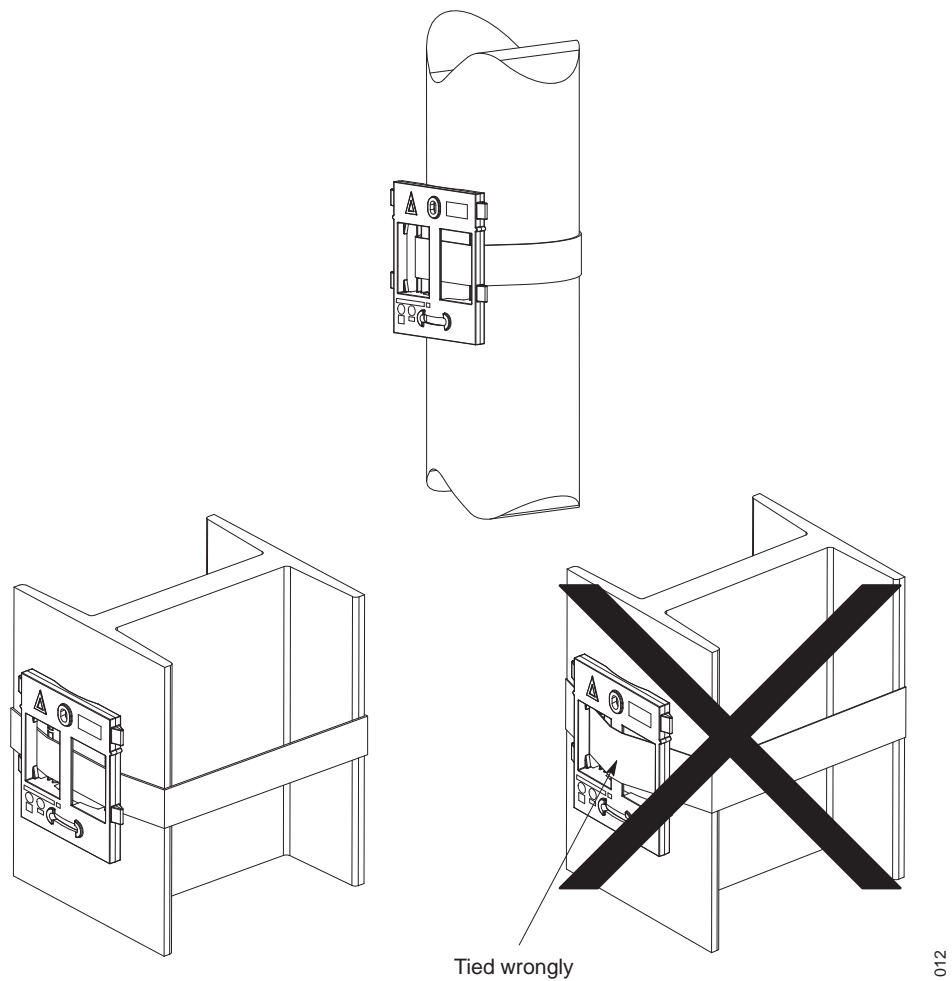

Figure 8. Fixing the mounting bracket to a pole or beam.
- 1 Fix the mounting bracket to a pole or beam using the band, see figure 8 on page 19.